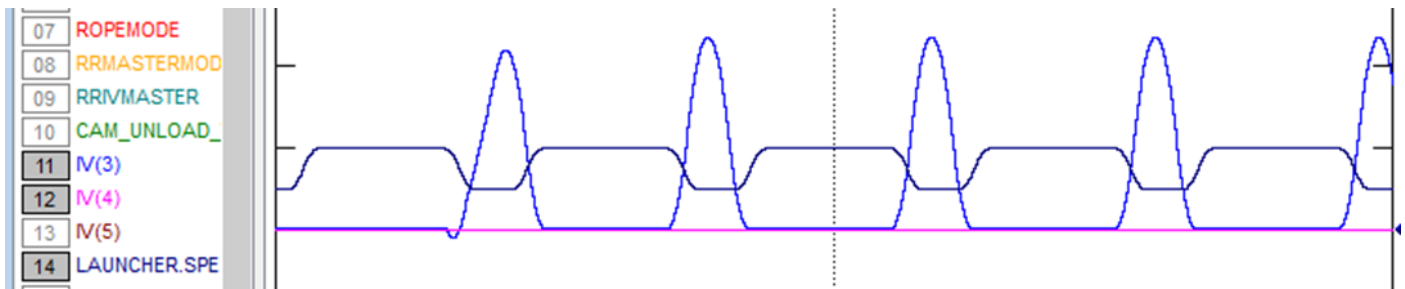

Figure 4 – Launcher axis slows down when the train is making a step forward
This axis is not working in synchronous way, since it is receiving products from the meat slicer and will receive a slowdown order from the train when it must move a step. Therefore, in automatic rule the launcher will be controlled with **move** command. In **figure 4** you can see that when the train moves (**IV (3)** makes a jerked step), the **launcher.spe** is reduced for a while, reaching its minimum value.